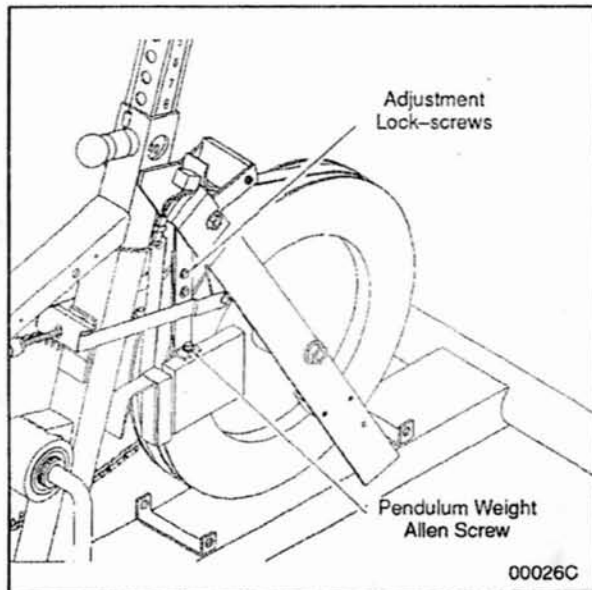

Figure 4.3 Pendulum Adjustment Screws.
8. If the unit requires calibration, loosen the two adjustment lock-screws on the pendulum support. See figure 4.3. If the LED Display shows lit LEDs above the horizontal line (see Figure 4.2), turn the Allen screw in the pendulum weight counterclockwise (lowering the weight) until the display shows **SET**. If the LED Display shows lit LEDs below the horizontal line, turn the Allen screw in the pendulum weight clockwise (raising the weight) until the display shows **SET**.